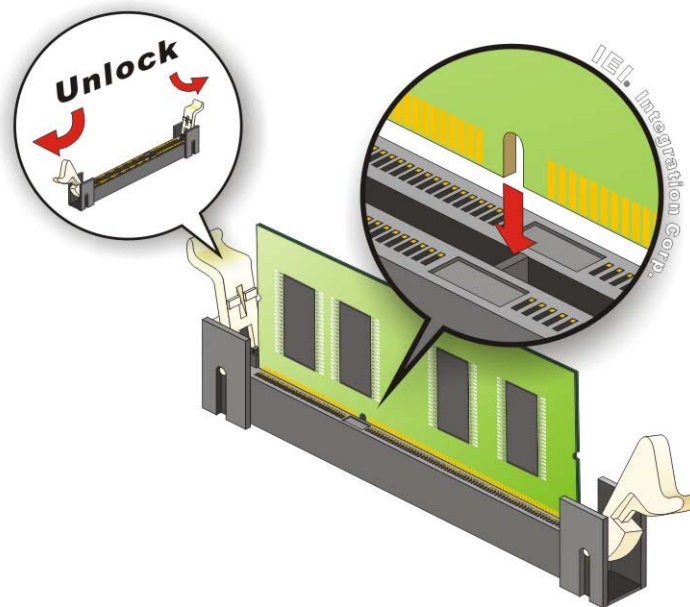

Figure 5-3: SO-DIMM Installation
- Step 5:** Align the new SO-DIMM with the socket. The SO-DIMM must be oriented in such a way that the notch in the middle of the SO-DIMM must be aligned with the plastic bridge in the socket (**Figure 5-3**).
- Step 6:** Press the SO-DIMM down until the arms of the SO-DIMM socket clip into place and secure the SO-DIMM in the socket (**Figure 5-3**).